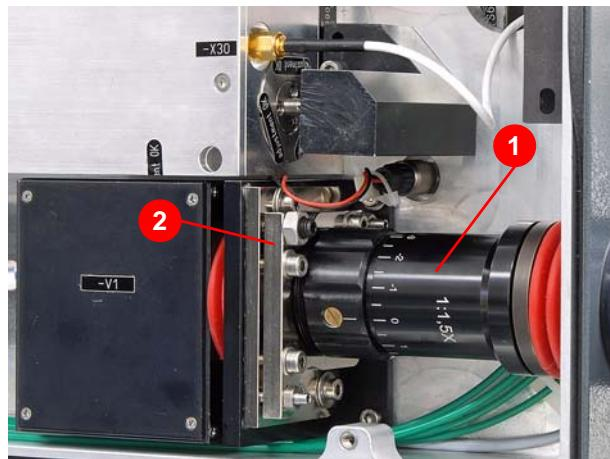

Figure 7.33 Dismantle the beam expander.
2. Remove the beam expander (1) (Figure 7.33) and the mount (2).